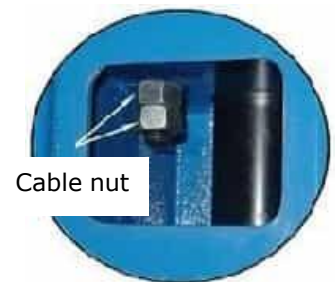

Fig. 60
1. Adjustment of sync cables (See Fig. 60)